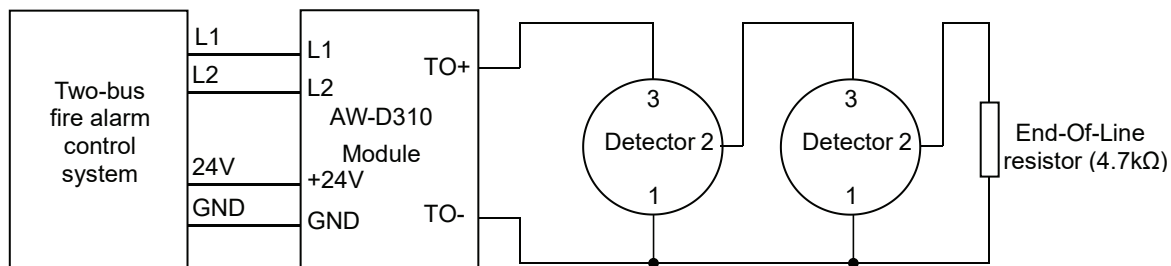

Fig.3
Connection with a detector (see Fig.3)
- 3) Wiring correctly as Fig.3.